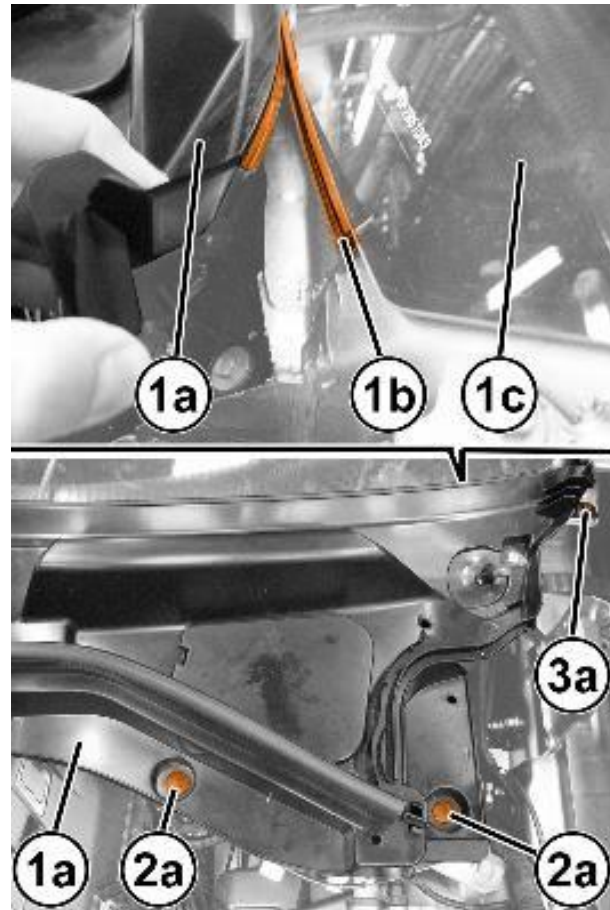

Figure 107 – Windshield Trim
68. Position the windshield base trim (1a) in position and engage the retaining profile (1b) along the entire windshield base (1c) (Figure 107).
NOTE: If necessary, use soapy water to facilitate inserting the trim (1a) into the retaining profile (1b) (Figure 107).
CAUTION: Do not press the trim (1a) excessively into the retaining profile (1b) to avoid damaging the windshield (Figure 107).
69. Apply the retaining buttons (2a) with central pin (Figure 107).
70. Tighten the screw (3a) (Figure 107).